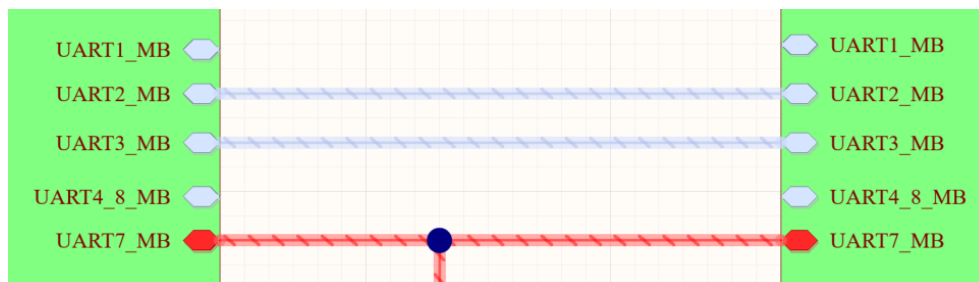

Figure 29. Synchronized sheet entries between sheet symbols
70. Your final result should look similar to Figure 29 below.